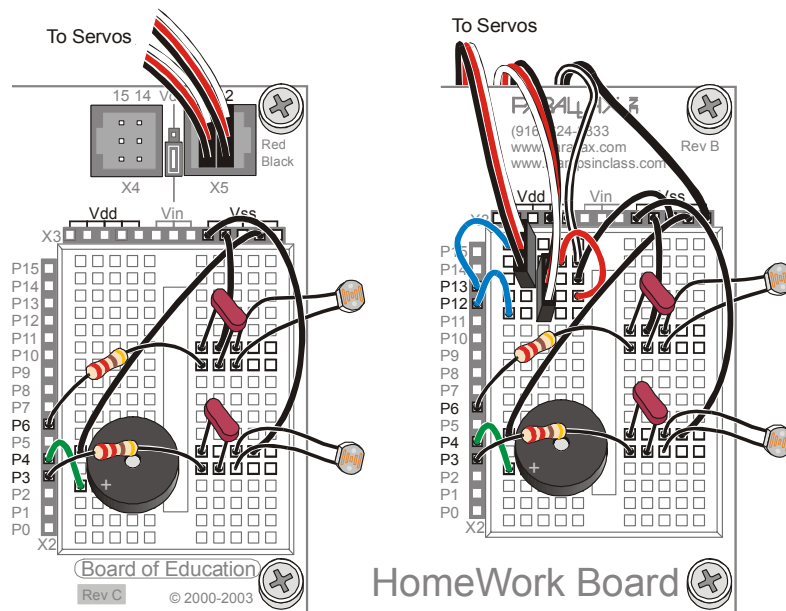

Figure 6-9
The circuit the BASIC Stamp can use to determine light levels is called a resistor/capacitor (RC) circuit. Figure 6-8 shows schematics of the Boe-Bot's RC light detection circuits and Figure 6-9 shows example wiring diagrams for the Board of Education and the HomeWork Board.
- ✓ Build the RC circuits shown in Figure 6-8 using Figure 6-9 as a reference.